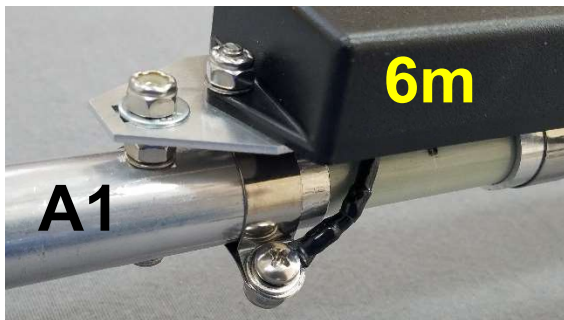

FIGURE 82
□ **STEP 7.34** Place a 3/8" socket wrench on the #10-24 lock nut, and a #2 Phillips screw driver on the screw head, as shown in **FIG. 81**. Tighten with wrench until P-clamp is fully compressed, as shown in **FIGs 82 and 83**. [See details below.]